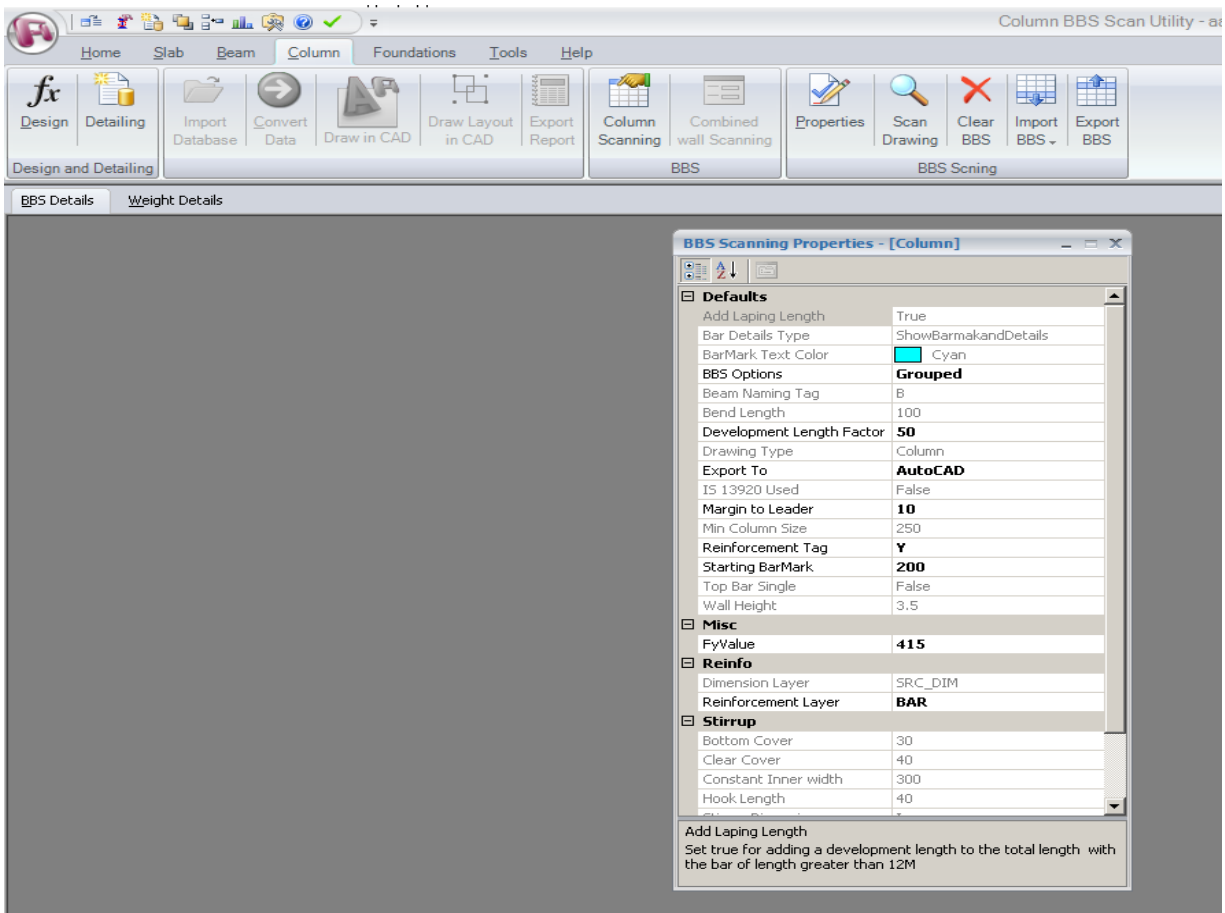

Fig 1.2.2
- User can set properties (fig1.2.2)